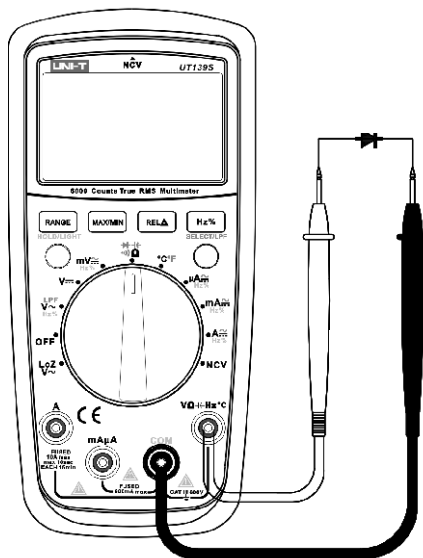

Figure 5
4. Diode measurement (see figure 5)